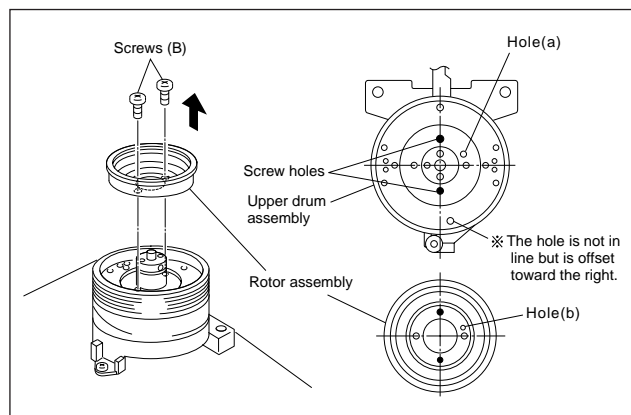

Fig. 2-2-24a
- (1) Match the phases of the upper drum assembly and the rotor assembly as indicated in Fig.2-2-24a.
- (2) Place the upper drum assembly hole (a) over the rotor assembly holes (b) (with three holes to be aligned) and tighten the two screws (B). (See Fig.2-2-24a.)